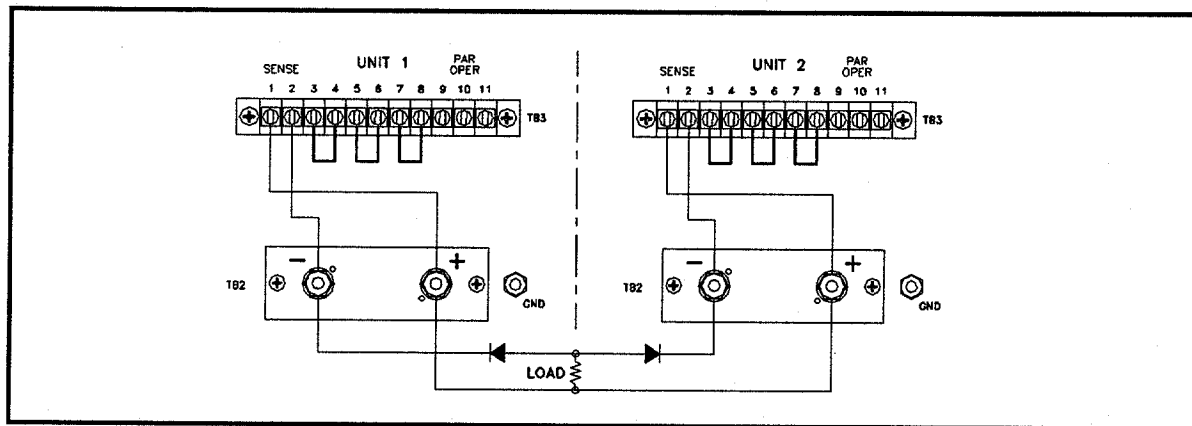

Figure 3-8 Direct Parallel Connections
3.4.1Direct Paralleling (Figure 3-8)
Parallel operation requires protective diodes. See Figures 3-8 and 3-9.
If the DCR-B2 is used with an energy storage type of load (e.g., batteries or large capacitor or inductor banks) protective diodes must be used in series with the negative load lead as shown in Figures 3-8 and 3-9. This precaution must be taken to prevent energy stored in the external device or load being absorbed by the OVP crowbar SCR. Due to the limited energy capabilities of the SCR, damage could occur to the SCR and, perhaps, the load.